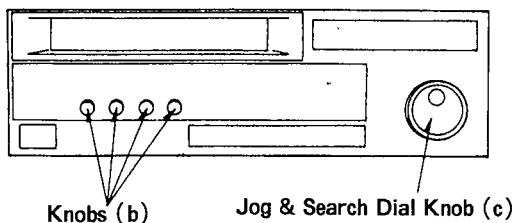

Figure D13
1. Pull out the 4 Knobs (b) on the Front Panel. (Figure D13)
2. Pull out the Jog & Search Dial Knob (c) on the Front Panel. (Figure D13)